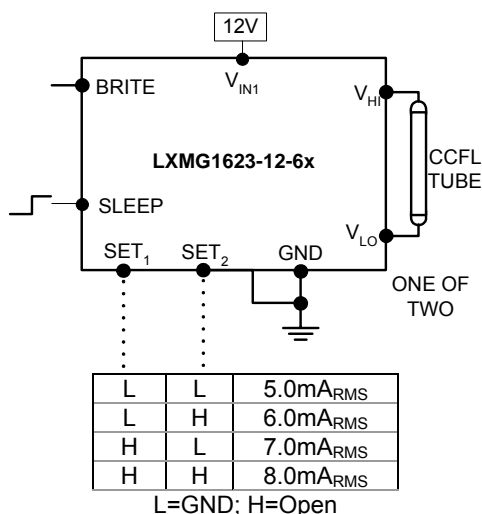

Figure 2 – Maximum Output Current
- Use the SET₁ and SET₂ (see Figure 2) inputs to select the desired maximum output current. Using these two pins in combination allows the inverter to match a wide variety of panels from different manufactures. Generally the best lamp lifetime correlates with driving the CCFL at the manufactures nominal current setting. However the SET₁ and SET₂ inputs allow the user the flexibility to adjust the current to the maximum allowable output current to increase panel brightness at the expense of some reduced lamp life.